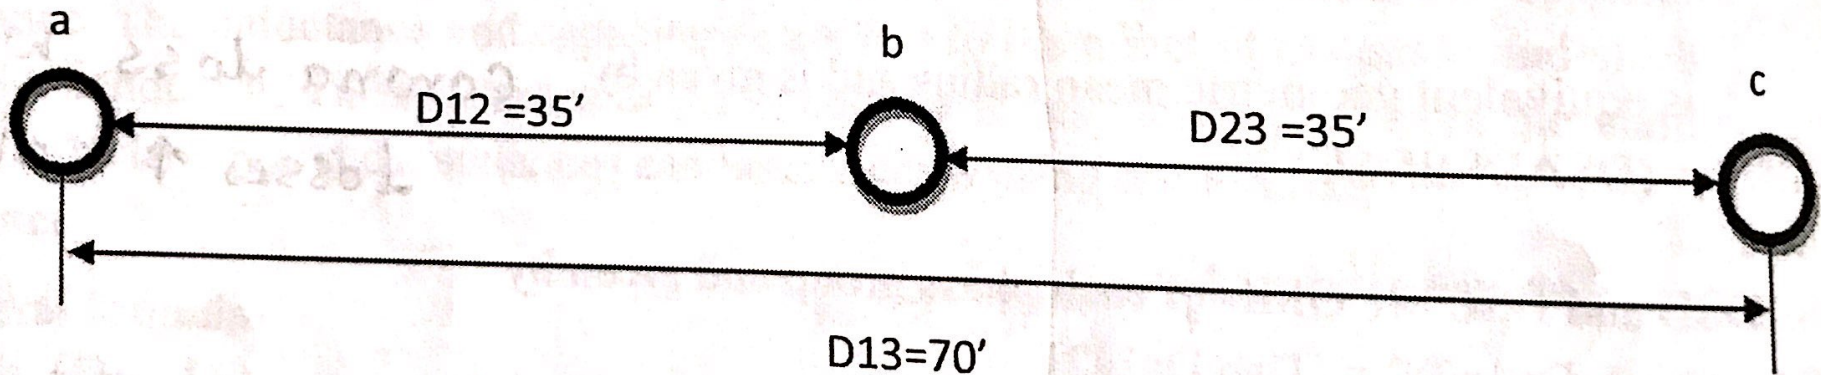

Fig.1
1. A 500kv 3 ϕ transposed line is composed of one ACSR 1,272,000-cmil, 45/7 bittorn conductor per phase with horizontal conductor configuration as show in fig.1. The conductors have a diameter of 1.345in and a GMR of 0.5328in. Find the inductance and capacitance per phase per kilometer of the line and justify the result using MAT LAB.
A 60Hz synchronous generator having inertia constant $H = 9.94$ MJ/MVA and a direct axis transient reactance $X_d' = 0.3$ per unit is connected to an infinite bus through a purely resistive circuit as shown in fig.1. Reactances are marked on the diagram on a common system base. The generator is delivering real power of 0.6 pu, 0.8 pf lagging and the infinite bus at a voltage of 1 per unit. Assume the p.u damping power coefficient $d=0.138$. Consider a small disturbance change in $\delta = 10^\circ$. Obtain the equation describes the motion of the rotor angle and generation frequency